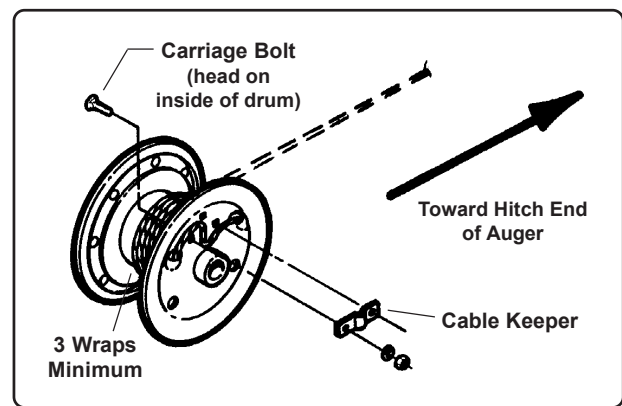

Fig. 12
Clamp the cable to the outside of the drum with the cable keeper using two (2) 3/16 x 3/4" carriage bolts, lock washers and non-lock nuts (be sure the carriage bolt heads are inserted from the inside of the drum, See Fig. 12).